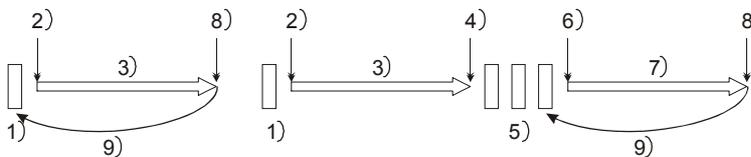

Figure 7-1
- ❸ Playing.
- ❹ The pause mode is set when the PLAY/PAUSE button is pressed again.
- ❺ Pausing.
- ❻ Playback resumes when the PLAY/PAUSE button is pressed again.
- ❼ Playing.
- Figure 7-1 shows the relationship between the play and back cue operations.